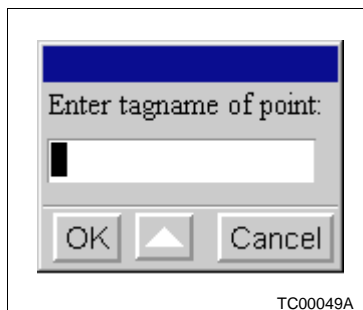
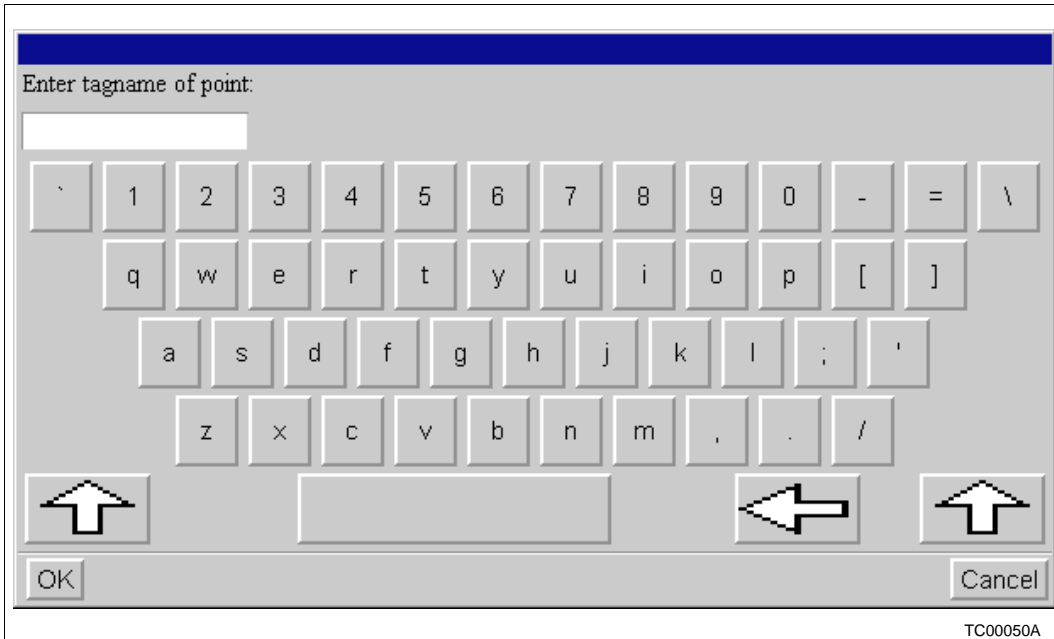

Figure 4-27. Enter Tag Name Pop-Up Window
Figure 4-28. Enter Tag Name Window
4. From the operator window *Select* menu, click on the *Point* item. The *Enter Tagname* pop-up window will appear (Figure 4-27). Type the tag name of the point (using the keyboard; to access a video version of the keyboard, click on the up arrow pushbutton; the video keyboard (Figure 4-28) will be displayed. Press **Enter** or click on *OK* to complete the operation.
5. From the keyboard, press **F4**. The *Enter Tagname* pop-up window will appear (Figure 4-27). Enter the tag name as described in item four above.